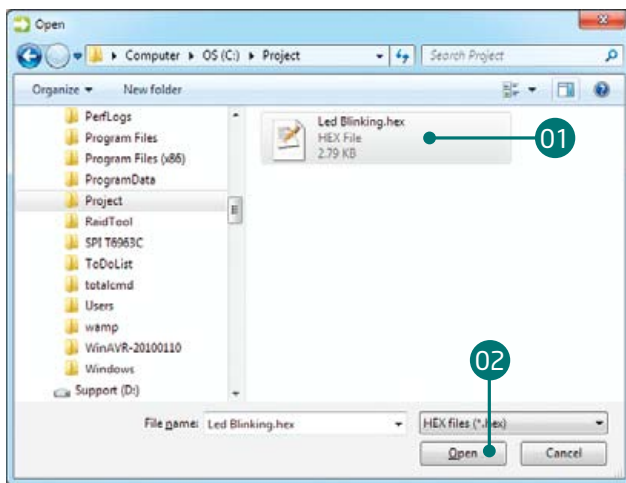

Figure 3-7: Locating and Selecting .hex file
- 01 Click the **“Browse for HEX”** button and from a pop-up window (Figure 3.7) choose .HEX file which will be uploaded to MCU memory